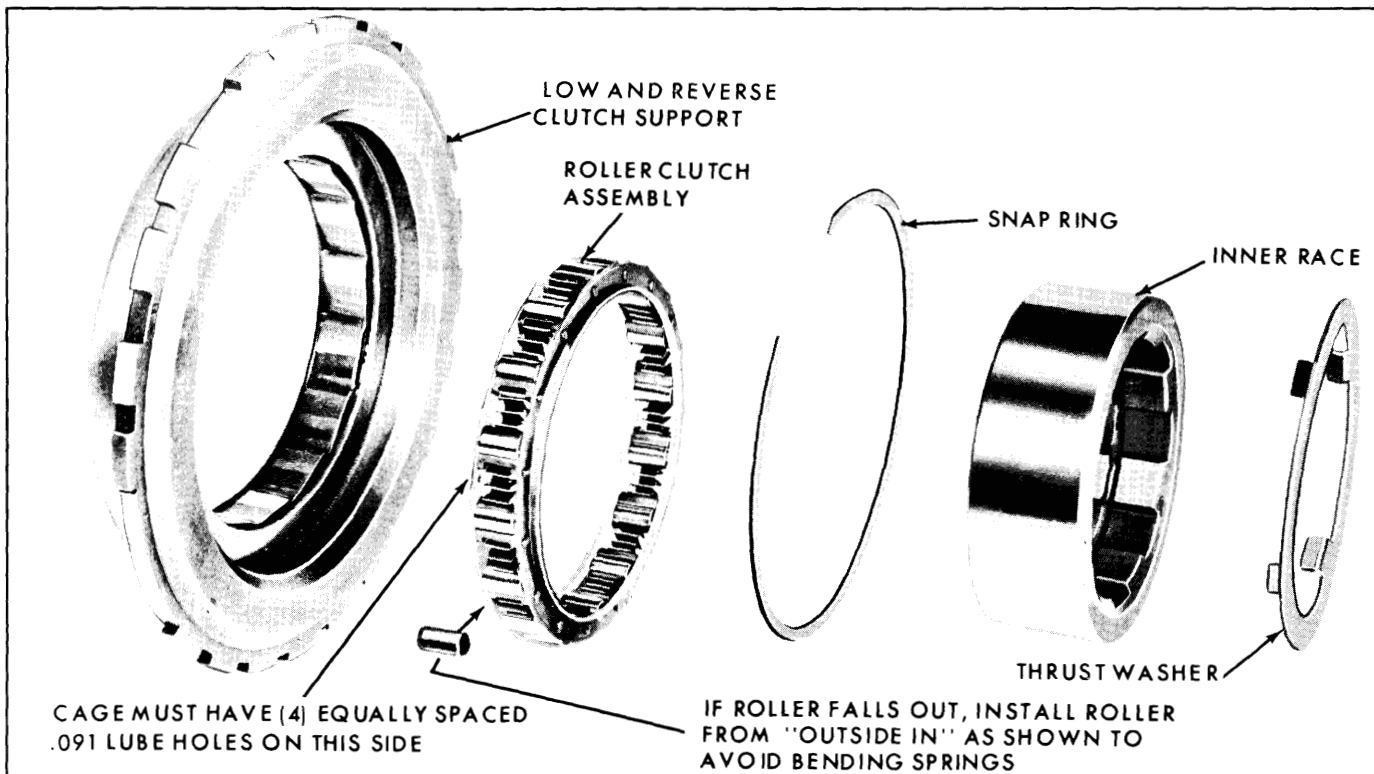

Fig. 7-91—Low and Reverse Clutch Assembly - Exploded View
**LOW AND REVERSE CLUTCH SUPPORT (Fig. 7-91)****Disassembly**